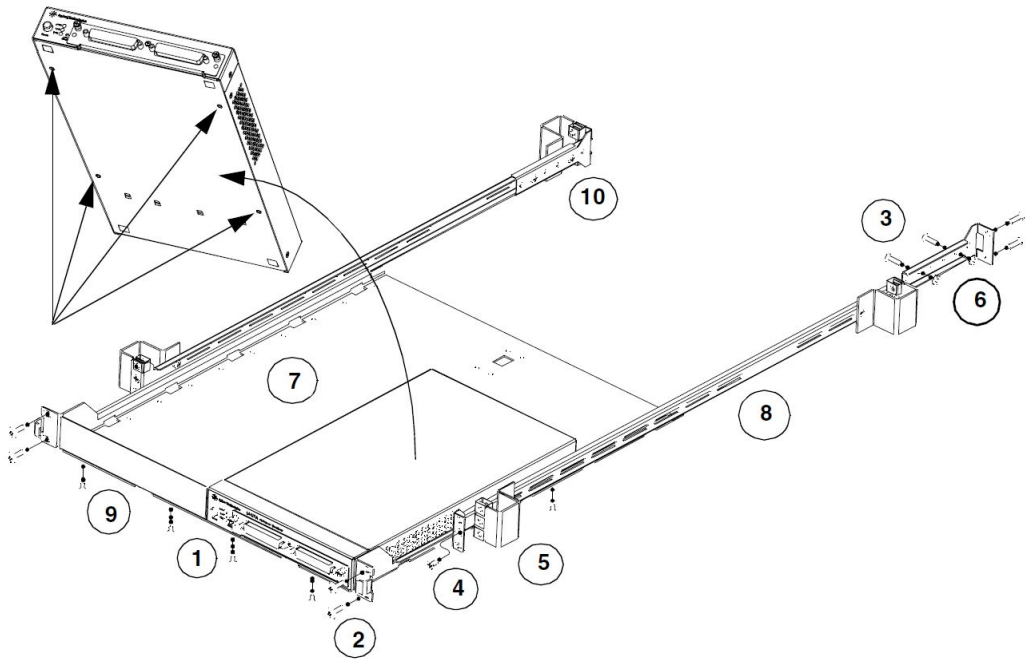
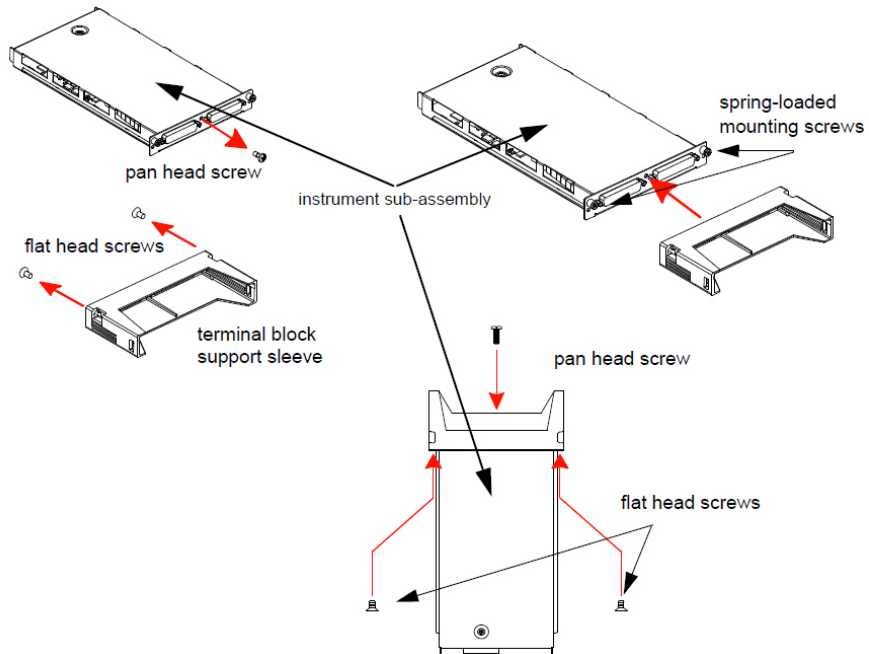

Figure 1-1 Y1160A Instrument Rack Mount Kit (L4400 Series).
Figure 1-5 Connecting the Terminal Block Support Sleeve.
Figure 1-1 is a composite drawing of the Y1160A sliding shelf rack mount kit. The drawing shows the location/usage of the hardware items listed in Table 1-2.
- 3 Note the location of the four mounting holes on the bottom of the instrument (Figure 1-1). Set the carrier on the shelf, and align the mounting holes with the holes on the shelf. Insert four M4x8 flat head screws (item 1) upward through the bottom of the shelf and into the carrier mounting holes.
- 4 Install the second L4400 instrument (if present) in the shelf area adjacent to the first instrument. If only one instrument is installed, install a filler panel on the front edge of the unused area. Insert two M4x8 flat head screws (item 1) upward through the bottom of the shelf and into the panel.
- 6 For instruments that have accompanying terminal blocks, partially remove the instrument sub-assembly from the instrument (carrier) by loosening the spring-loaded mounting screws (Figure 1-5). Remove the support sleeve from the terminal block. Locate and remove the flat head screws from the sleeve and remove the pan head screw from between the instrument's D-sub connectors (Figure 1-5). Connect the sleeve to the instrument using the flat head and pan head screws as shown. Reconnect the sub-assembly.